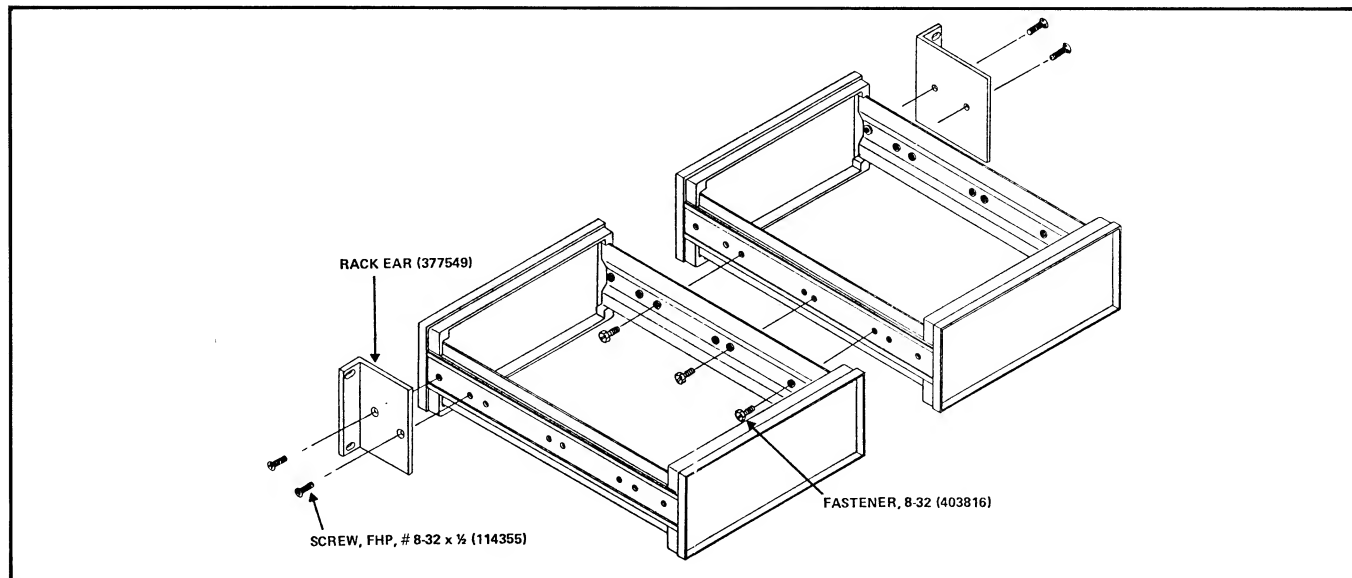

Figure 6-2. SIDE-BY-SIDE RACK MOUNTING
- g. Insert three (3) 8-32 fasteners through the side of the unit, from which the guard enclosure was removed, into the captive nuts on the side of the other unit (see Figure 6-2).
- i. Secure the rack ears to the sides, at the front panel end of the assembled units, as shown in Figure 6-2.